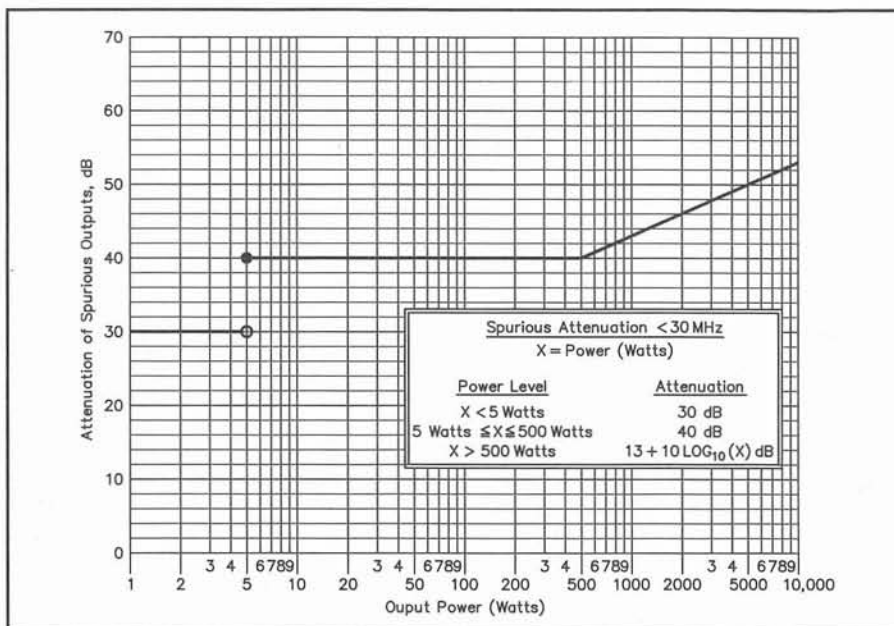

Figure 17.2—Required attenuation of spurious outputs below 30 MHz is related to output power.
- be at least 40 dB below the mean power of the fundamental emission, if the mean power output is 5 W or more. The requirement that no spurious emission exceed 50 milliwatts means that above 500 watts, the suppression must be greater than 40 dB. At 1500 watts, the suppression must be 44.77 dB. The requirements for transmitters operating below 30 MHz are shown graphically in Figure 17.2.